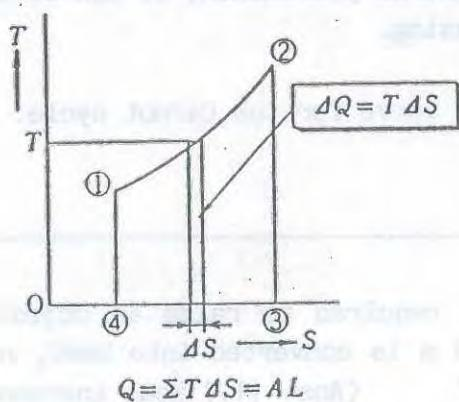

Fig. 4-11 TS diagram
Where  $\Delta S$  is the change of entropy. Entropy is one measure of state and has important significance in thermodynamics. For example, in the same way that the work is expressed by a  $pV$  curve which is the product of pressure  $p$  and volume  $V$ , the thermal energy is also expressed as the product of temperature  $T$  and entropy  $S$ , and this relation is expressed as a  $TS$  curve (Fig. 4-11). The area which can be under the  $TS$  curve (the area surrounding by ①, ②, ③, and ④ in the figure) is an expression of the amount of heat  $Q$  introduced and lost.